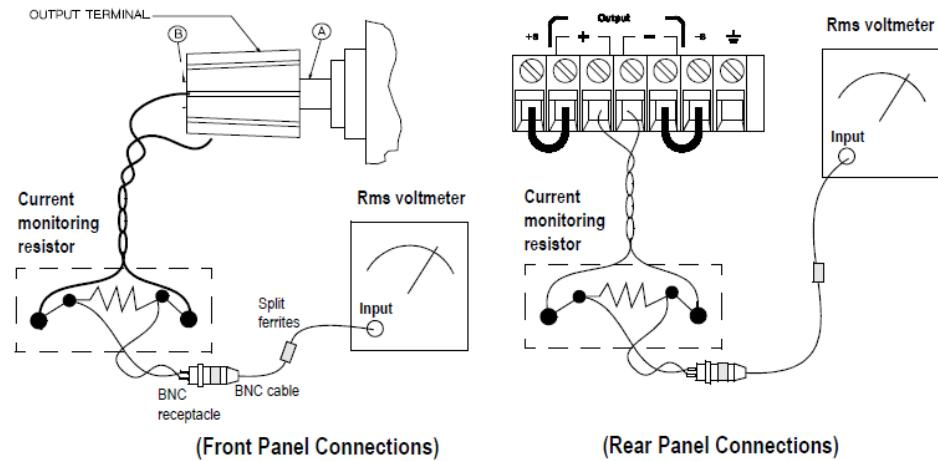

Figure 8-6 CC PARD (ripple and noise) connections
For better measurement results, it is recommended to make the connection between the BNC receptacle and the output terminals as short as possible, and to use the recommended split ferrites with the BNC-to-BNC cable as shown in Figure 8-6.
- 1 Turn off the power supply and connect the output to be tested as shown in Figure 8-6 with the current monitoring resistor 0.2Ω (R_{M2}) across output terminals. Connect an rms voltmeter across the current monitoring resistor as shown in Figure 8-6.